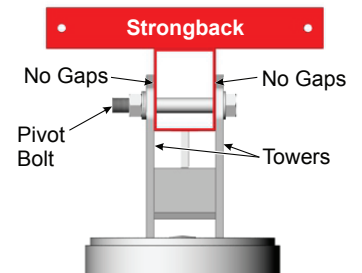

Figure 10-3:
- After changing the tilt angle and tightening the Support Bar hardware, the Pivot Bolt must be re-tightened. The Mounting Sleeve Vertical Towers must be firmly clamped to the sides of the Strongback eliminating any gaps between the Vertical Towers and the Strongback. Torque to 125-150 ft./lbs. (See Figure 10-3)